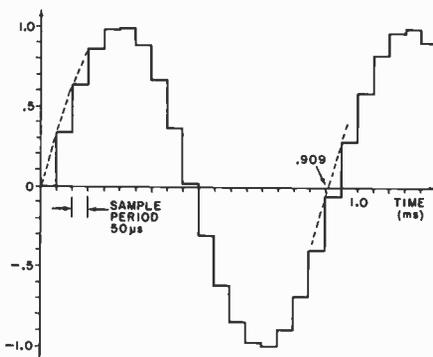

Fig. 1. Sampled sine wave.
**The Sampling Theorem.** Any waveform, no matter how simple or complex, can be represented as a series of discrete voltage values such as might come from a digital-to-analog converter (DAC). Figure 1 shows a sine wave as it might appear at the DAC output. This is termed a "sampled representation" because the sine-wave voltage is sampled at discrete points in time and held until the following sample point. Obviously this is a very poor sine wave, a fact that is easily demonstrated with a distortion analyzer.